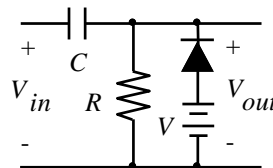

Fig. 10
- Connect the circuit of fig. 10 with $C=22\ \mu\text{F}$, $R=300\text{K}\Omega$, and voltage $V=0$.